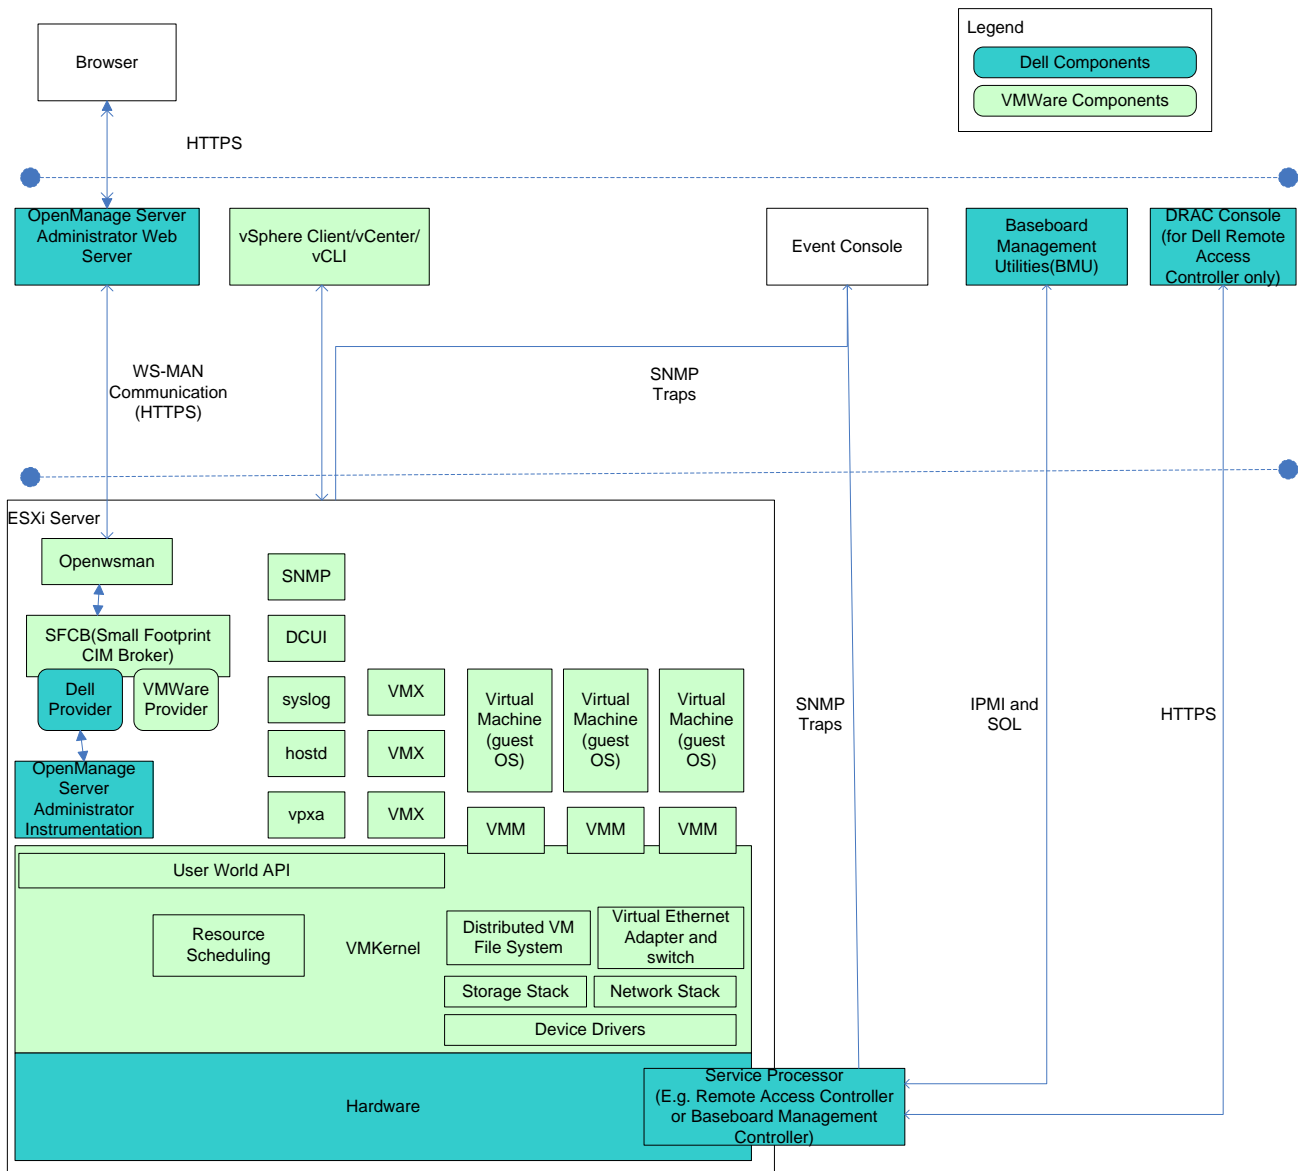

Figure 1: Overall Software Architecture
- Figure 1: Overall Software Architecture4
Figure 1 demonstrates the architecture of the Dell/VMware solution ecosystem. The ESXi architecture installed on a PowerEdge server comprises the core virtualization layer, which includes a purpose-built kernel and the processes that run on top of it. The kernel abstracts the underlying hardware from the virtual machines and controls application resource allocation. Some of the processes that run on the kernel are:
In Figure 1, the event console provides trap reception capabilities, event formatting and display, and the ability to filter and perform actions in response to events. OpenManage IT Assistant and Dell Management Console are examples of event consoles that provide this administrative capability. They are capable of handling Platform Event Traps (PETs) that are generated by the service processor and VMware-issued traps (for example, VM-related events, VM power on and off). They also support SNMP traps issued by OpenManage Server Administrator instrumentation. ESXi can be configured to send SNMP traps to the machine hosting the Event Console using the vSphere Command Line Interface (vCLI).